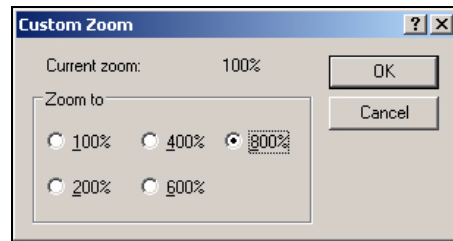

Figure 5-58: Custom Zoom
- 2 Navigate to *View > Zoom > Custom*. The *Custom Zoom* (Figure 5-58) dialog box appears.